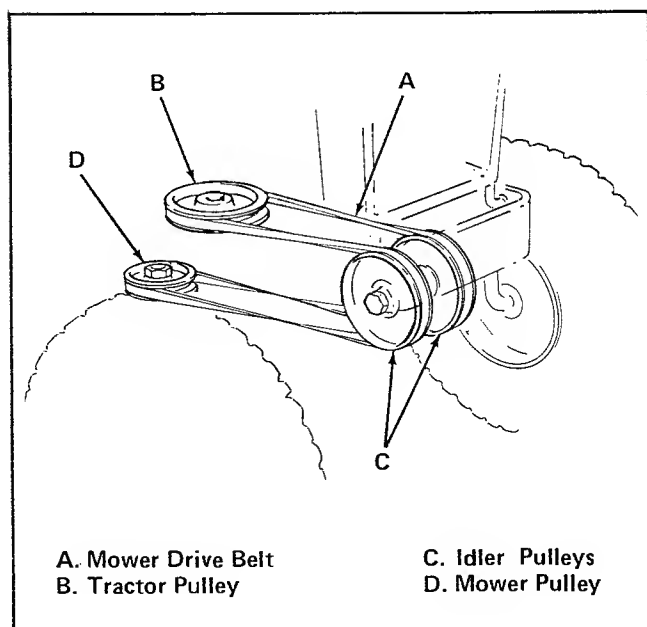

Figure 5. Install Mower Drive Belt
6. Install mower drive belt (item A, figure 5) over tractor pulley (B), idler pulleys (C), and mower pulley (D).